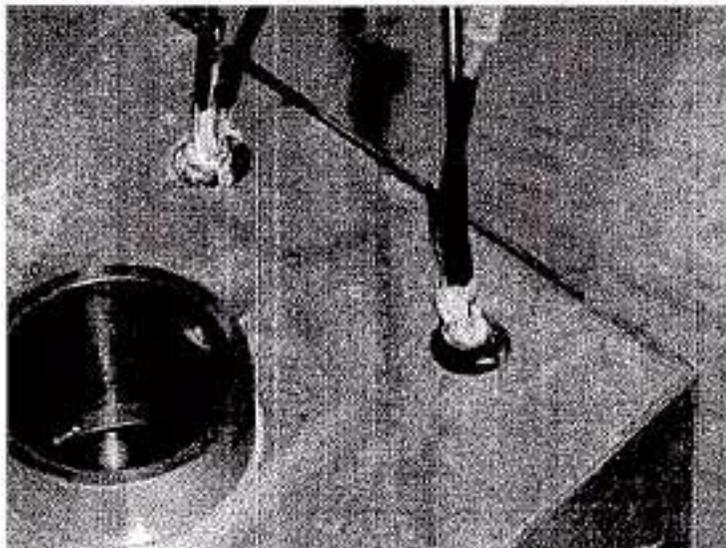

Figure 2. Insert Heaters to Wire Leads
11. Carefully insert heater into well. Heater should be inserted until only wire leads are exposed (Figure 2). A heat conductive paste may be used as a lubricant to assist in the insertion of the heaters.